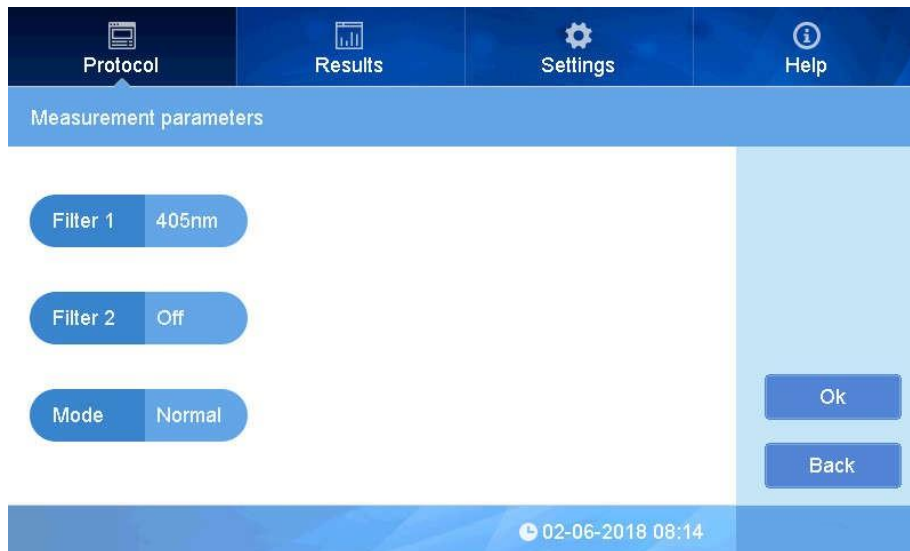

Fig. 12
- On interface “protocol”, click blank area near “Measure” to set parameters(Fig 12).